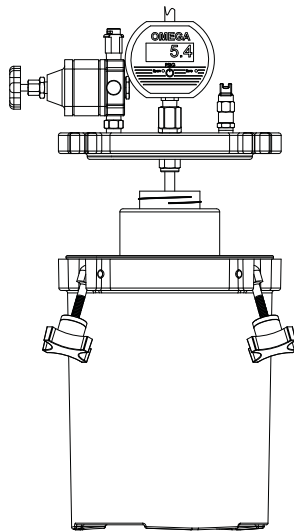

Figure 4.
7. Install the cover. If you are using a manufacturer's bottle, ensure the feed tube is inserted into the bottle. (Figure 4).